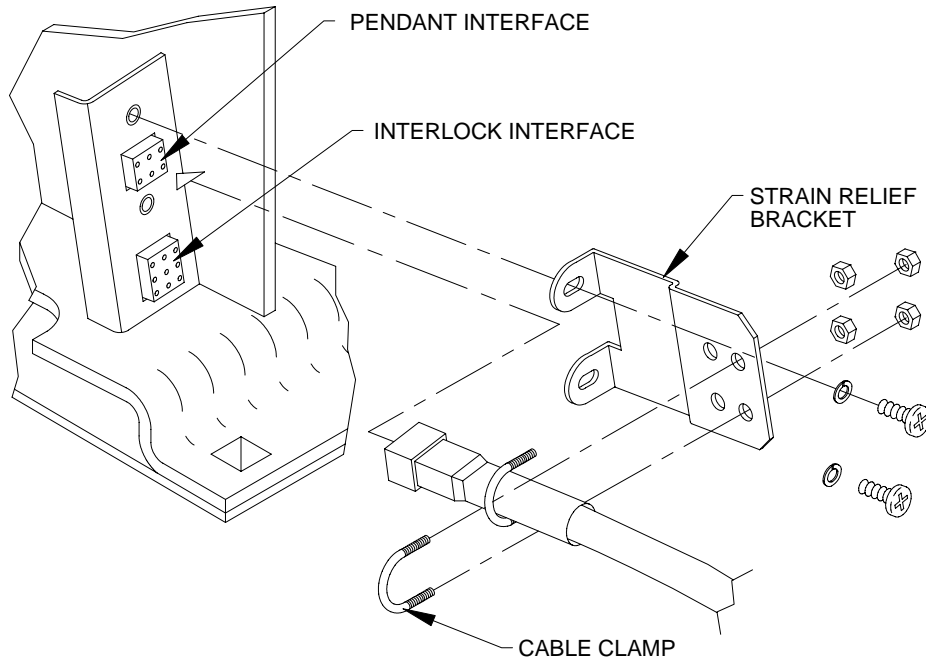

FIGURE 2-10: STRAIN RELIEF KIT
- a. Refer to **Figure 2-10**. Connect hand-held control pendant to six-pin connector at left side of baseplate and secure cable with supplied cable clamp.